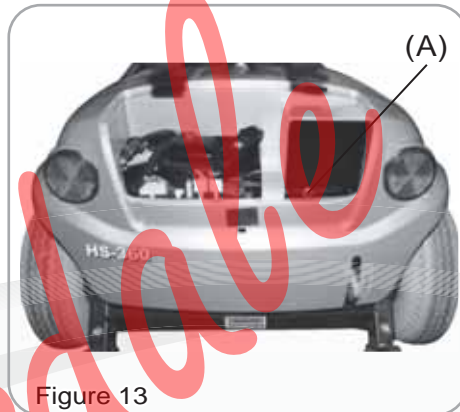

Figure 13
- charger plugs are correctly positioned, reset circuit breaker (A) .(Figure 13)